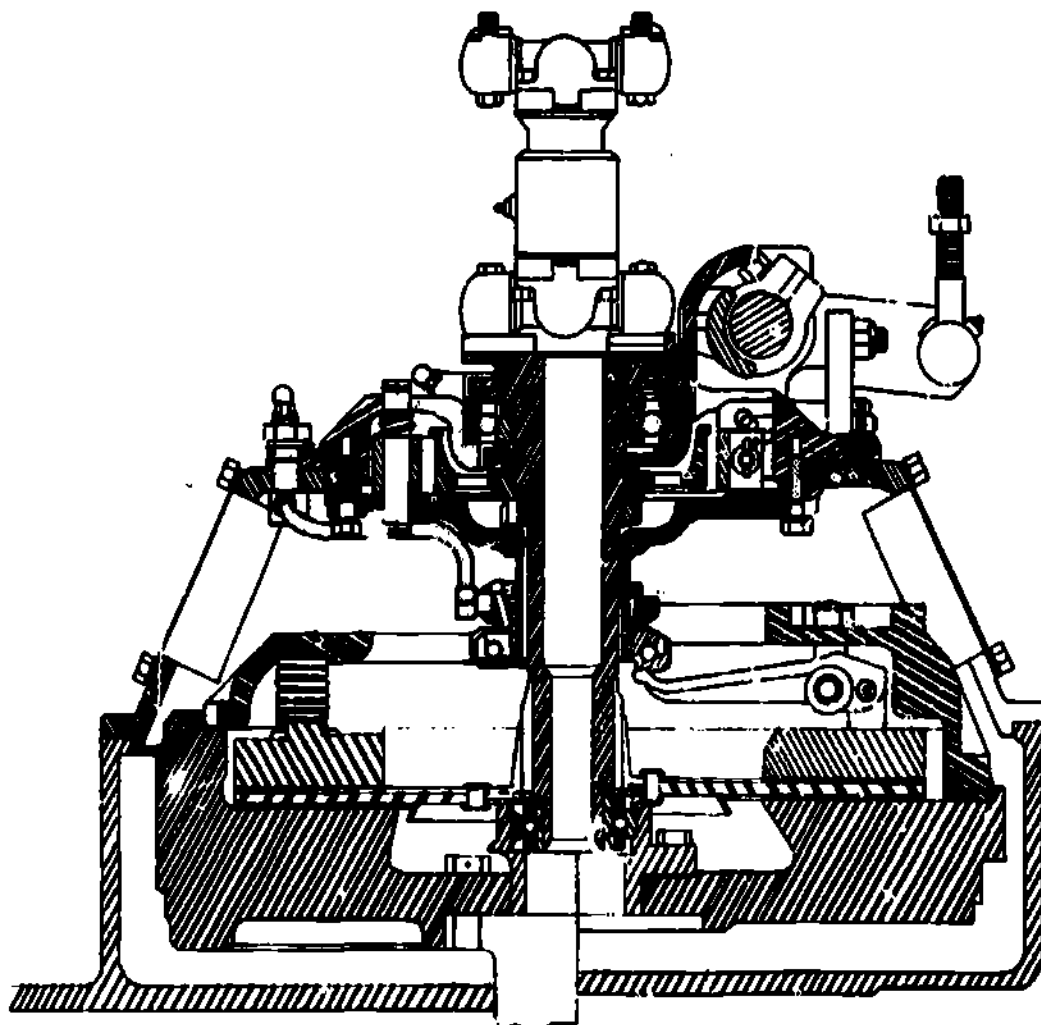

Fig 3-2. Grader clutch assembly.
- (3) Grader. The grader is equipped with a 16-in. single-plate, spring-loaded, Rockford clutch (fig 3-2). It is similar to the Ray City 150-T46 crane-shovel engine clutch. However, the grader clutch control linkage is connected to and activates a clutch brake. The principles of operation are the same: pressure and friction. The clutch is located under the fuel tank between the engine and the upper transmission. The clutch shaft is hollow to permit another shaft to be splined to the engine flywheel and transmit power independent of the engine clutch. The engine clutch controls only the power flow for the propelling power train.